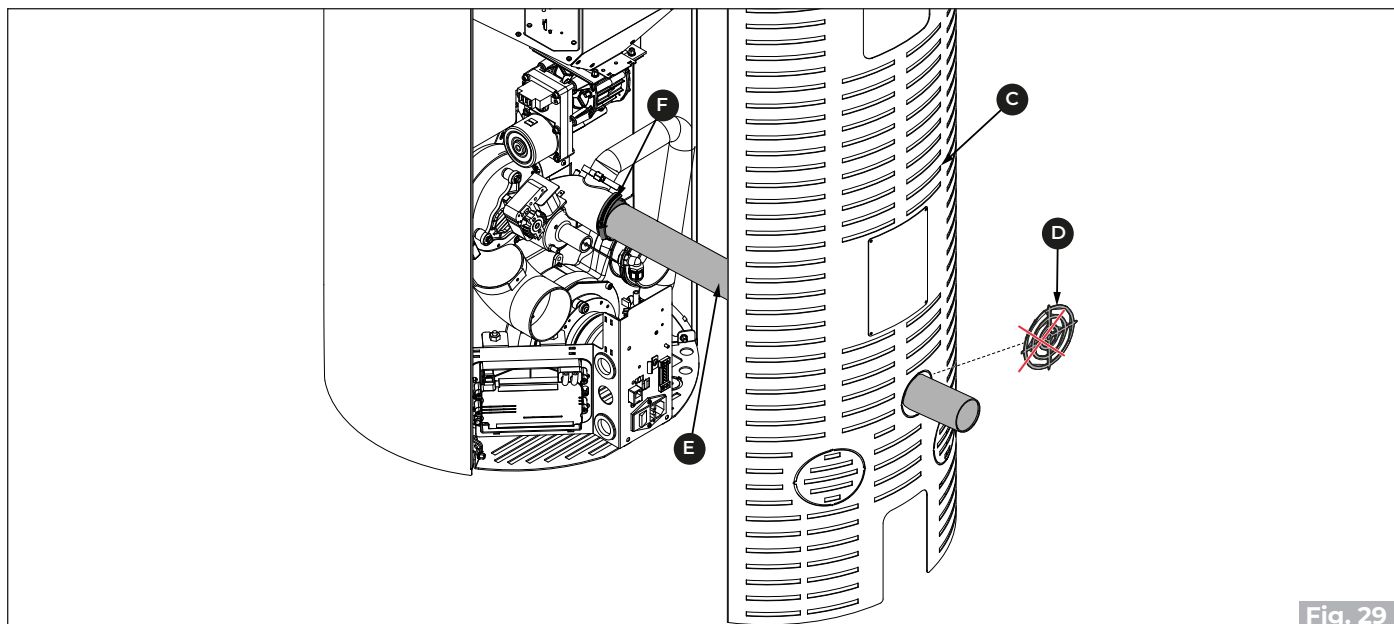

Fig. 29
- Remove the preform **(D)** on the back panel **(C)** and insert the flexible hose **(E)** to connect it to an outside air intake ("Fig. 29").